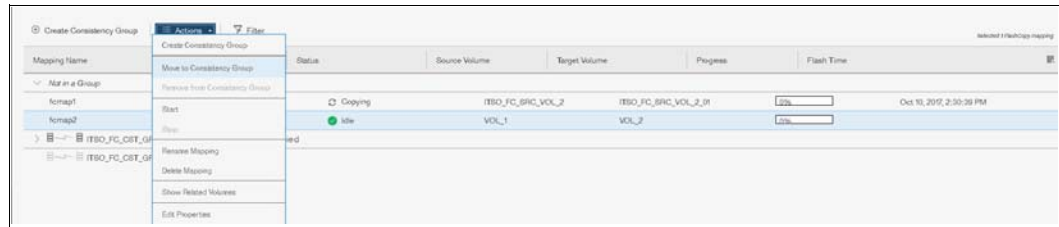

Figure 10-53 Move to Consistency Group action
3. Click **Actions** → **Move to Consistency Group**, as shown in Figure 10-53 on page 506.